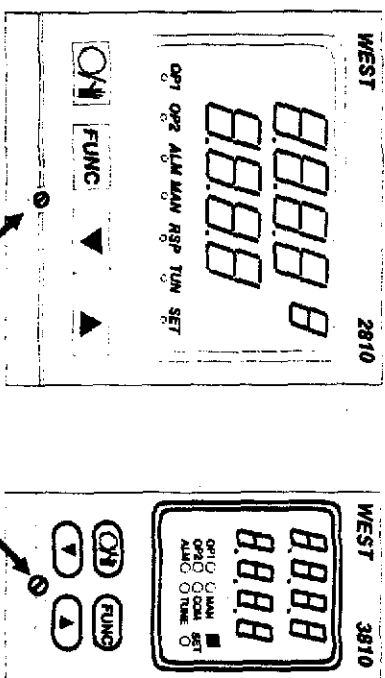

Figure 2-4 Location of Locking Screw
1. With a flat-bladed screwdriver of appropriate size (1/4-inch), rotate the retaining screw (see Figure 2-4) anticlockwise until the screw thread is completely dis-engaged. This will partially move the Controller out of the housing and dis-engage the connections at the rear of the Controller (inside the housing).